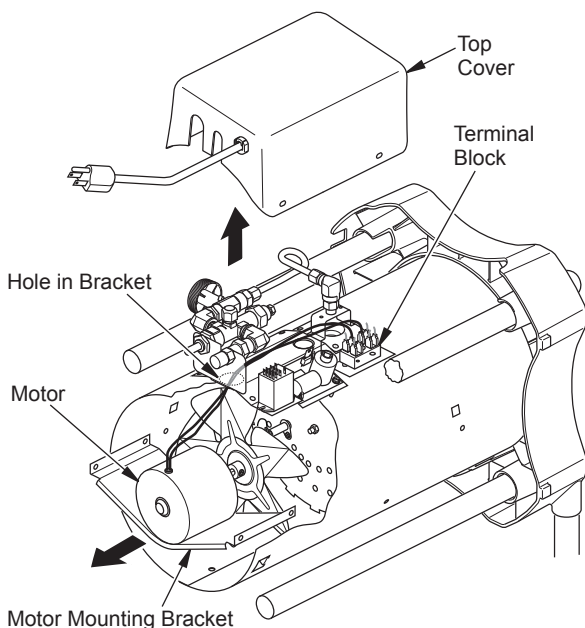

Figure 6 - Removing Fan and Motor
3. Detach the motor and fan wires from terminal block under top cover (see Figure 6, page 9).
- Route motor wires through hole in top of shell (see Figure 6).
- Reconnect motor and fan wires to the same posts on terminal block as removed in step 3, page 8 (see Figure 6).
19. Route motor wires through hole in top of shell (see Figure 6, page 9).
20. Reconnect motor wires to the same posts on terminal block as removed in step 3, page 8 (see Figure 6, page 9).